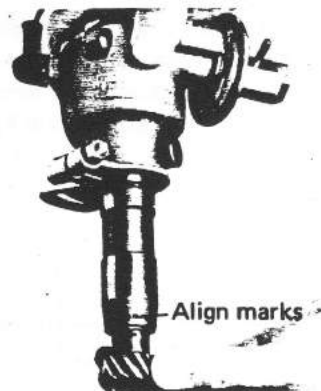

Fig. 138
- Align the marks on the distributor drive gear and housing as shown in Fig. 138.